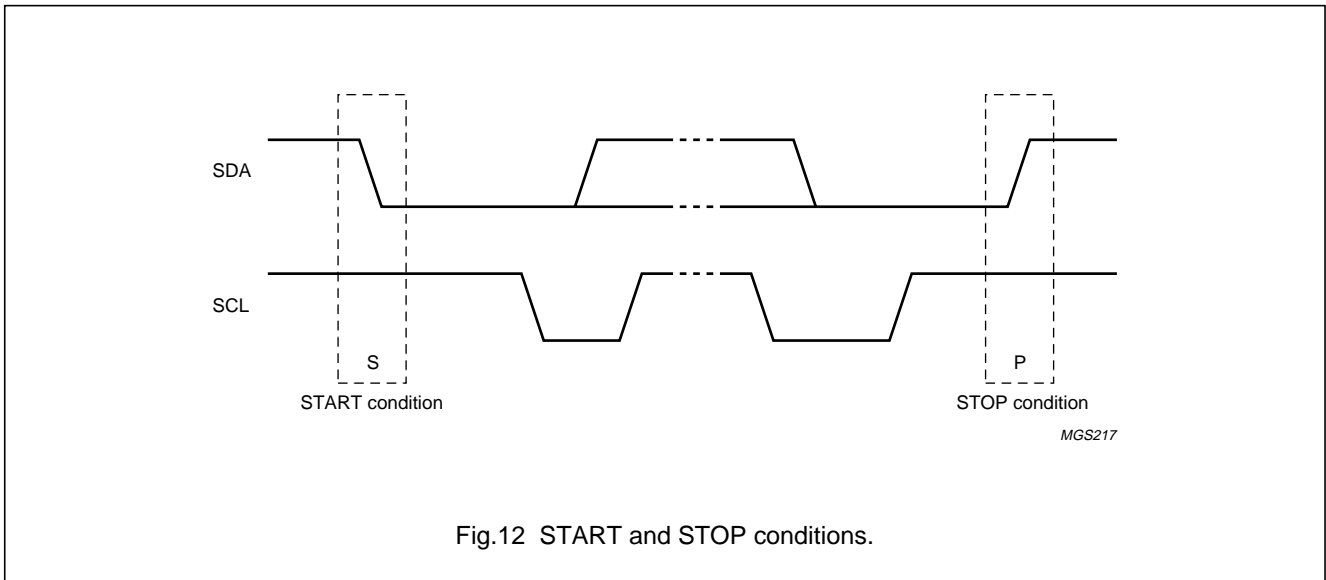

Fig.12 START and STOP conditions.
Both data and clock lines will remain HIGH when the bus is not busy. A HIGH-to-LOW transition of the data line, while the clock is HIGH, is defined as a START condition (S). A LOW-to-HIGH transition of the data line while the clock is HIGH is defined as a STOP condition (P) (see Fig.12).